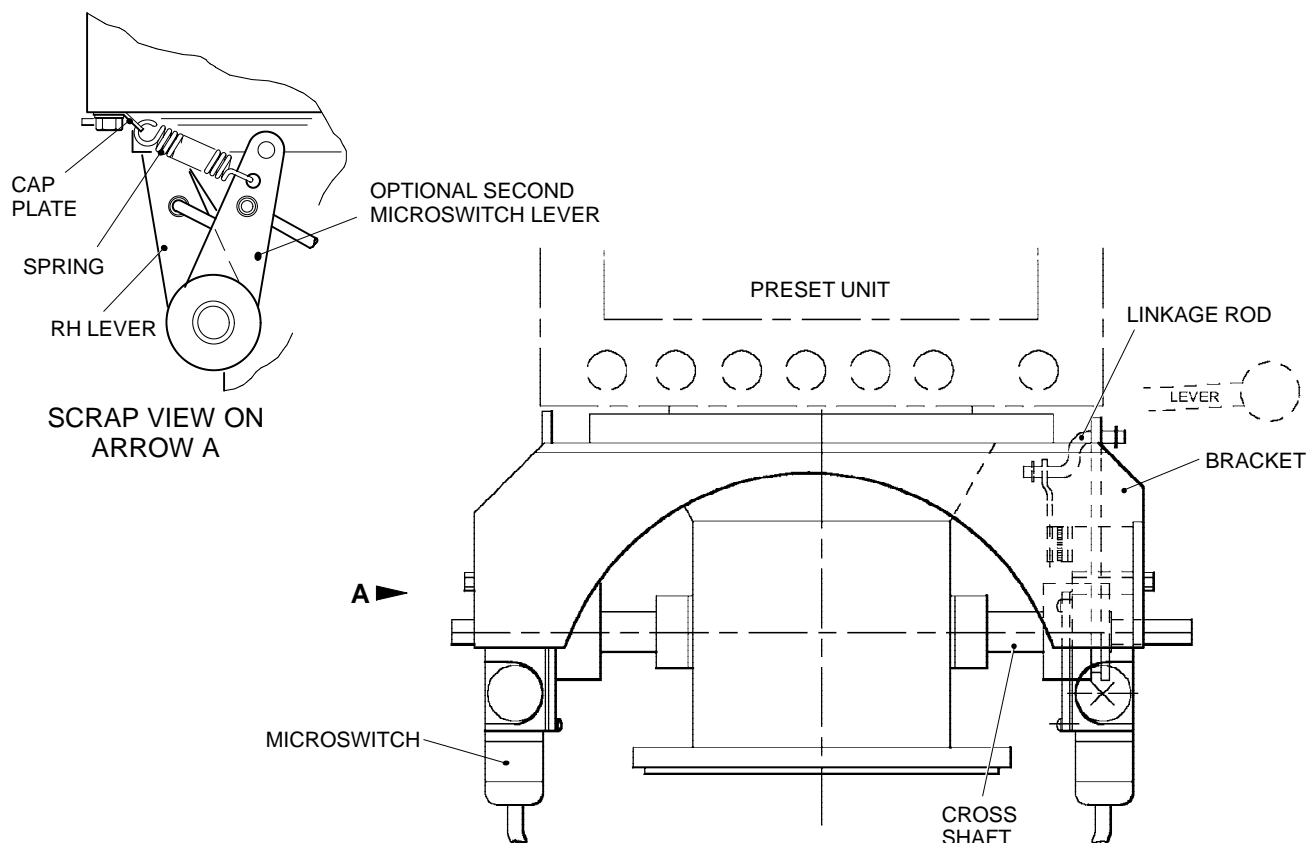

Fig 1.3 Microswitch and linkage
Page 3	Fig 1.3 Microswitch and Linkage diagram shows ATEX approved switches
- 3.2 One or two levers are secured to the cross shaft as shown in Fig 1.3. These can be in place of or additional to the preset operating lever.